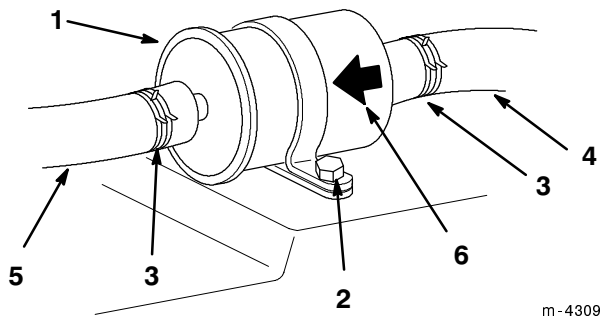

Figure 46
4. Remove the filter mounting bolt and remove the filter (Fig. 46).
5. Squeeze the ends of the hose clamps together and slide them away from the filter (Fig. 46).
8. Install the filter mounting bolt (Fig. 46).